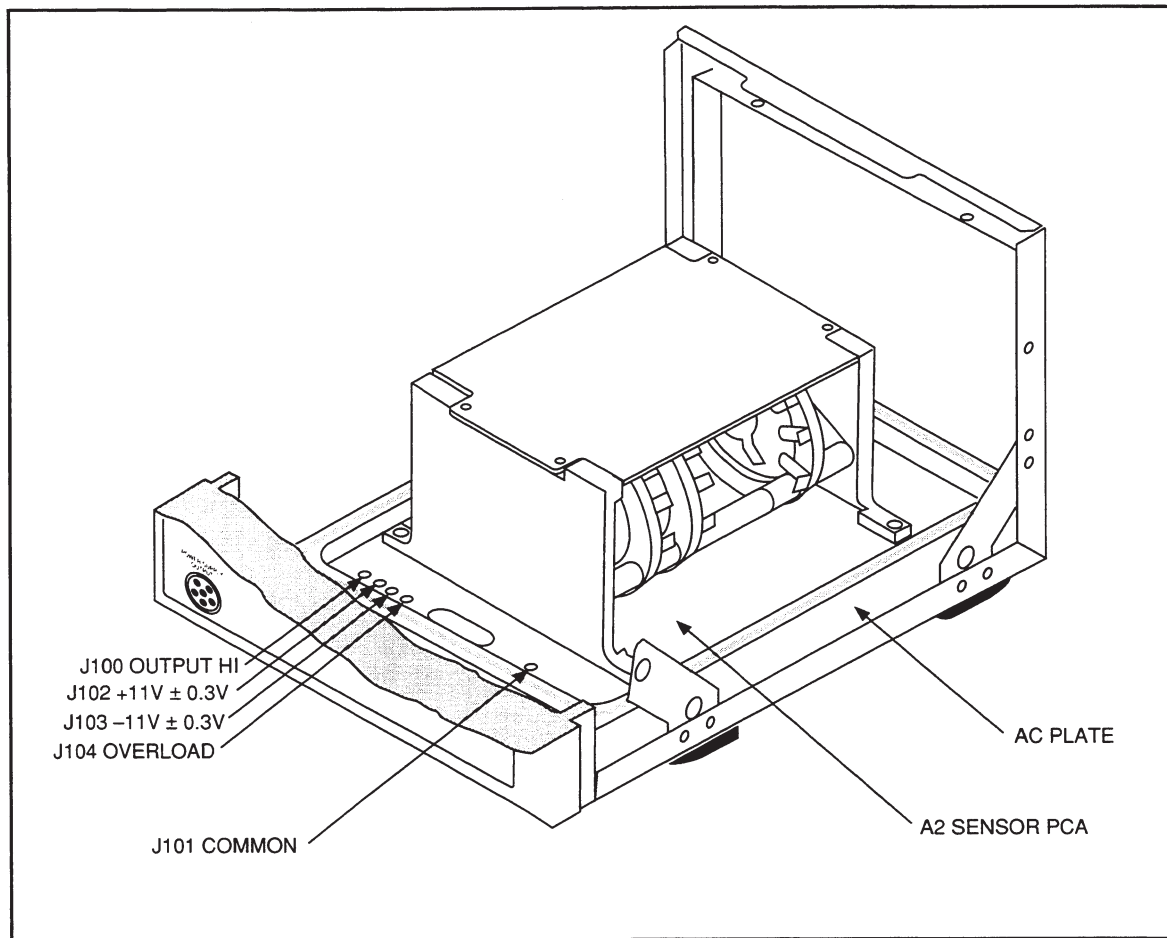

Figure 5-7. AC Plate Voltage Test Points
2. Set the range switch to 2.2V, and check the ± 11 V supplies with a DMM at the test points shown in Figure 5-7.